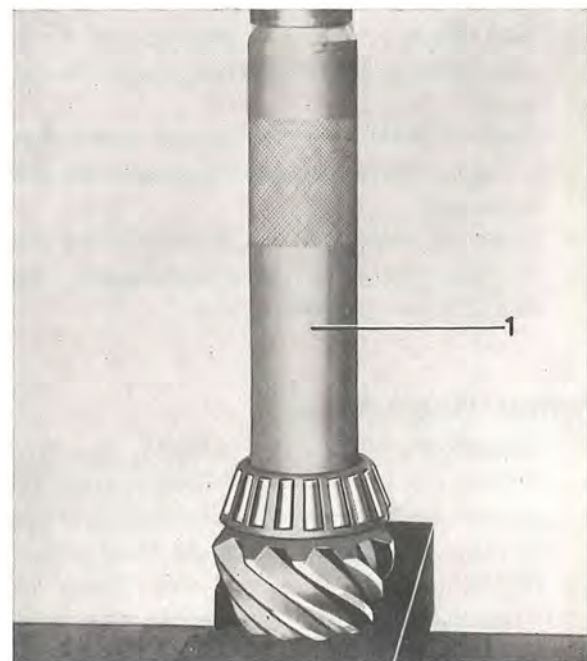
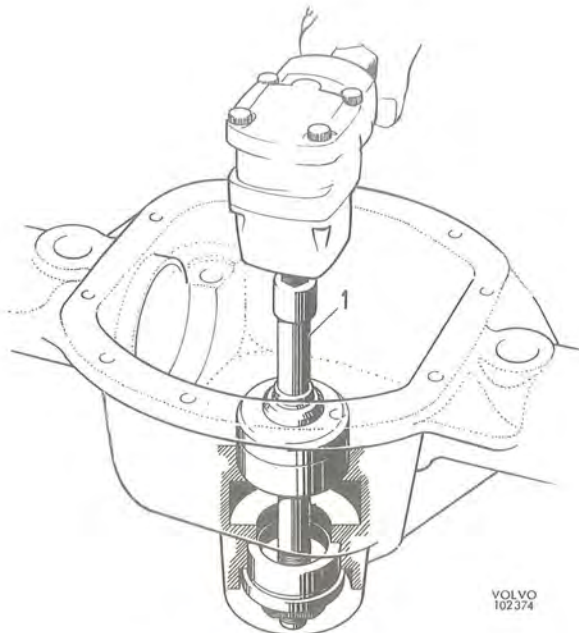

Fig. 4-155. Fitting the rear pinion bearing
Fig. 4-156. Fitting the bearing rings
4. Press the rear bearing on the pinion with sleeve SVO 2842, see Fig. 4-155. Fit the measured shims and press in both the outer rings of the bearings with tool SVO 2845, see Fig. 4-156.